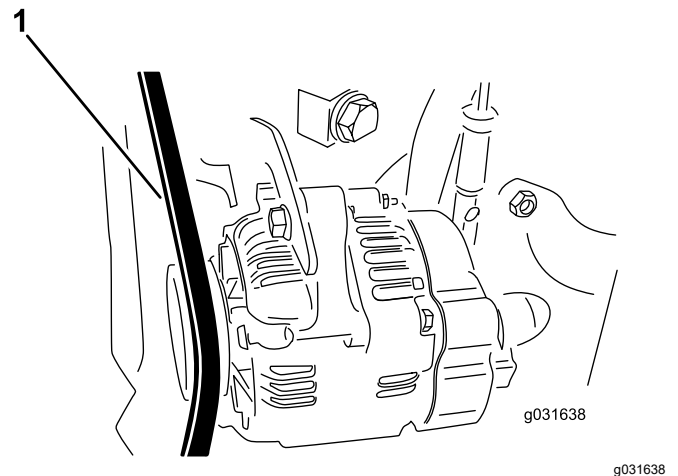

Figure 61
2. Apply 30 N (22 in-lb) of force to the alternator belt, midway between the pulleys (Figure 61).